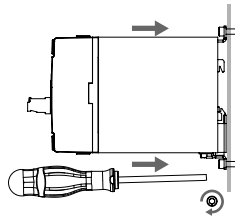

fig. 2 SSR mounted on Panel Mount
- Locate the panel section on which the DR45 SSR will be mounted on (as shown in **fig.2**)